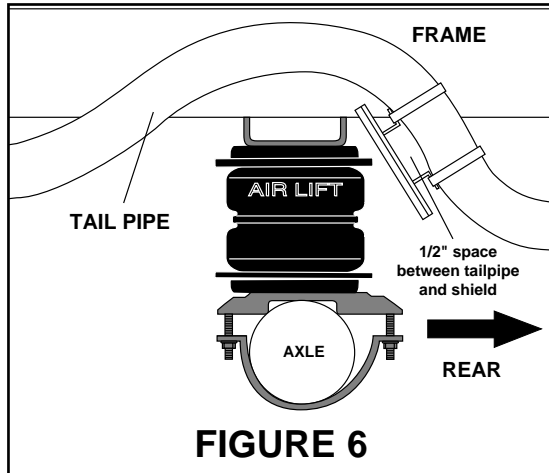

FIGURE 6
10. Installation of this kit requires an exhaust heat shield (Figure 6). The shield is attached to the exhaust pipe, with the flanges bent for component clearance. **Bend tabs to provide 1/2" dead air space between exhaust pipes and heat shield and maximum clearance with bellows.**